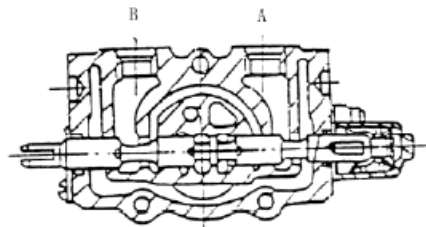

Fig. 5-5 Push in spool
b) Pushing-in of spool (See Fig. 5-5)